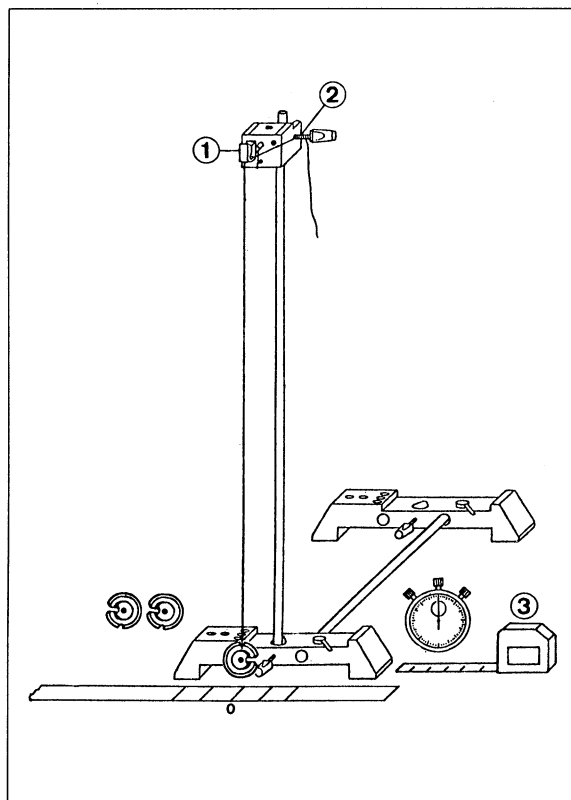

Abb. 1 Experimental setup: string pendulum
1. Set up the stand bases and stand rods as shown in fig. 1
3. Plug the retaining clip (1) into one of the top holes in the sleeve block.
4. Tie the cord to a weight and thread it through the retaining clip (1). Regulate the length of the resulting pendulum so that the weight is only about 2 mm away from the surface of the work-bench.
5. Attach the cord to a screw (2): wind it five times round the screw!